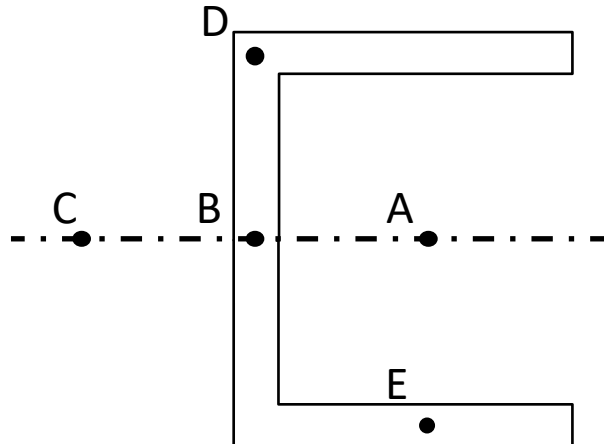

Figure Q12
12. For the beam cross-section shown in Figure Q12, the shear centre will be located closest to which point?